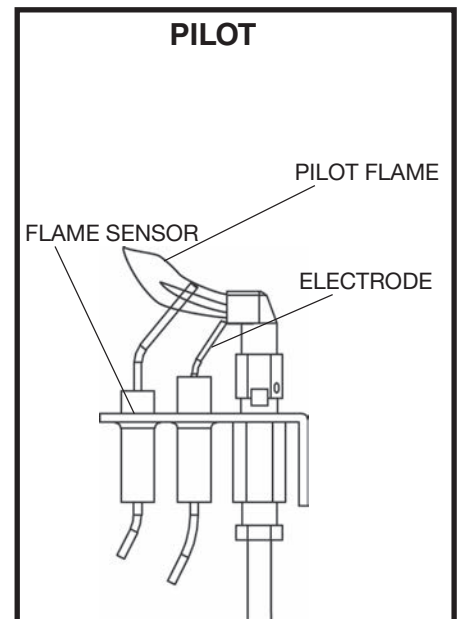

Figure 65: Pilot assembly.
- b) Check the pilot system for proper flame size and operation. Clean pilot free of soot, dust or any other deposits (Figure 65)